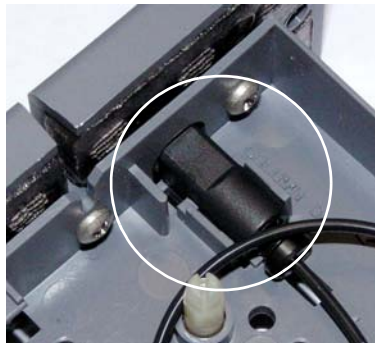

Figure 9-45. *Separator Column Outlet Fitting*
6. Remove the guard column (if present) and separator column from the column clips. Lift up the separator column outlet fitting (see Figure 9-45) slightly to free it from the clips and then slide it out of the cartridge.
11. Remove the fitting plug from the outlet fitting on the separator column. Orient the fitting with a flat side up and push the fitting into the opening at the front of the column cartridge until it stops (see Figure 9-45).